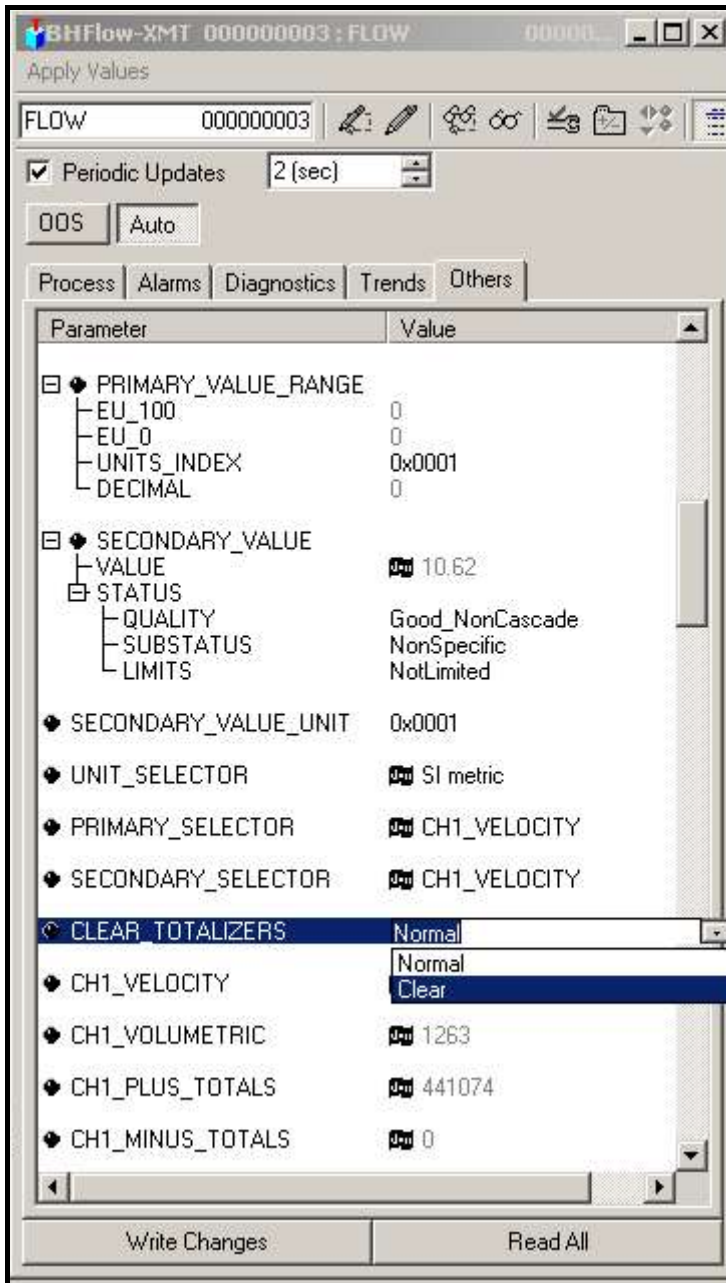

Figure D-4: Clear Totalizers Drop Down List
3. Select Clear from the drop down list box (see Figure D-4 below).